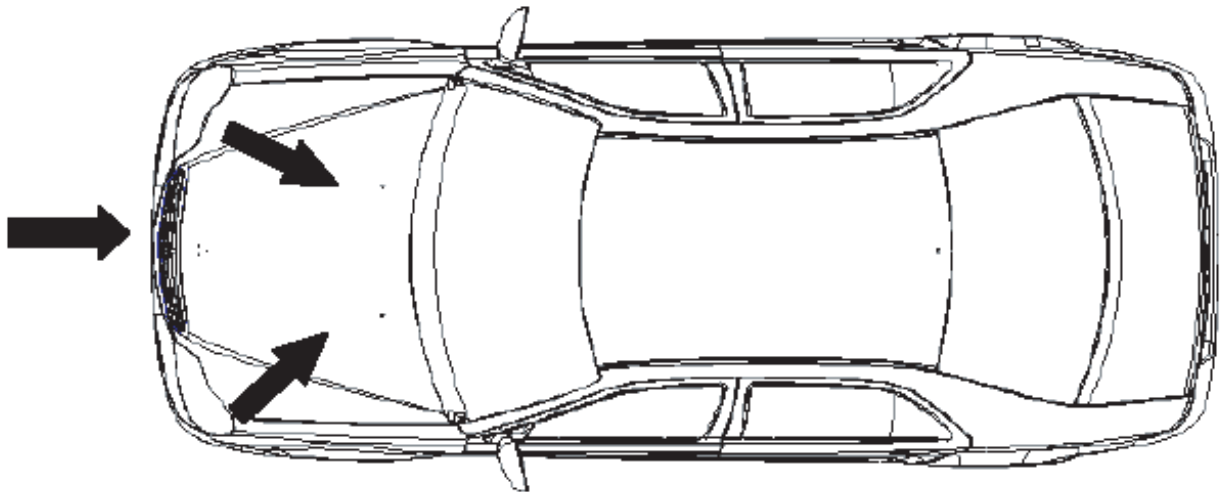

Figure 5-13 The Front Central Is Crashed
1. The Front Central Is Crashed (Figure 5-13)